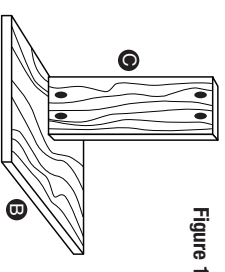
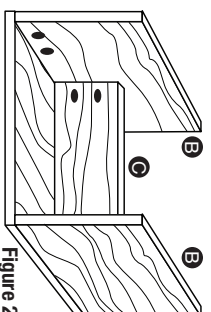

Figure 1
Figure 2
1. Drill four pocket holes in one end of each of the two 6" leg pieces (B) at the locations shown in the diagram.
2. Drill two pocket holes in each end of the support piece (C) at the locations shown in the diagram.
3. Place one of the legs (B) on your work bench with the pocket holes facing up.
4. Screw the support piece (C) to the leg (B), centering it left to right. (See Figure 1).
5. Place the other leg (B) on your work bench with the pocket holes facing up.
6. Screw your support piece (C) to this leg (B), centering it left to right so it mirrors the other side.
7. Place the stool top (A) on your work bench. Set the legs and support (B & C) on top of your stool top (A) and screw together. (See Figure 2).